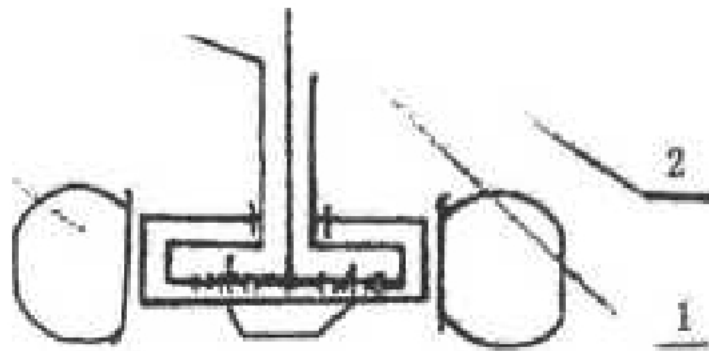

Figure 2-9: Illustration of Drive Axle
Operating principle (as shown in Figure 2-9): via the driving spiral gear (7), the drive shaft (8) drives the driven bevel gear (6) and thus the torque is transmitted to the driven bevel gear. Via the left and right diff cases (1) assembled with the driven bevel gear, the torque is transmitted to the cross axle (2) and then, via the four differential bevel gears (3) installed on the cross axle, to the left and right cone-shaped semi axle gears (4). If the left and right wheels have the same speed (i.e., the ground has the equal drag torque on the axis of the semi axle), the no relative movement will not occur between the semi axle gears of the differential gear, as if the left and right driving wheels are linked together with one single axle. But; when the vehicle makes a turn or travels on the uneven road and the different speeds are required for the left and right wheels (i.e., when the ground has different drag torques on the axis of the left and right semi axle, the difference is greater than the torque required for the differential gear), the differential gear rotates around its own axis so that the left and right wheels have different speeds for a differential role. Via the semi axle (5), the power is transmitted to the wheel (9) to keep the loader to travel.